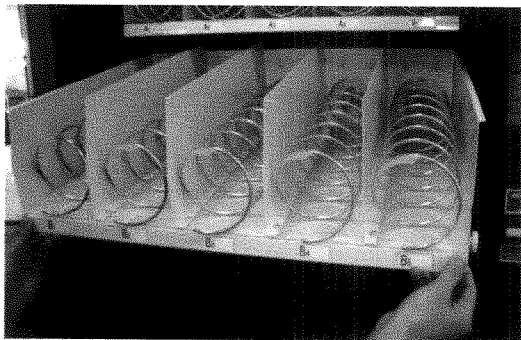

Figure 10 – Pull the tray towards you.
- The product tray will tilt downward for easy product loading (*reference figure 10*).